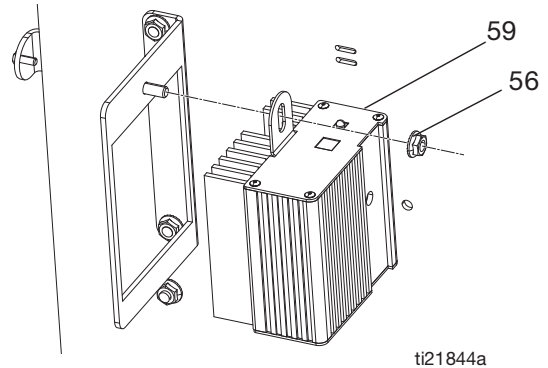

FIG. 13
3. Remove the heater shroud (90) and the electronics cover (55). See FIG. 13, page 46.
4. Loosen and remove the temperature control module bracket mounting fasteners (56). Move the control module up and out of the way to access the thermocouple.
- a. Remove the protective tape from the thermocouple tip (T).
- b. Apply PTFE tape and thread sealant to male threads and tighten the thermocouple housing (H) into the adapter (305).
- c. Push in the thermocouple (310) so the tip (T) contacts the heater element (307).
- d. Holding the thermocouple (T) against the heater element, tighten the ferrule nut (N) 1/4 turn past tight.
9. Route the wires (S) into the cart and thread into a bundle as before. Reconnect the wires to the board.
10. Replace the heater shroud (90) and the electronics cover (55). See FIG. 13, page 46.
11. Turn on the heaters ISO and RES simultaneously to test. Temperatures should rise at same rate. If one heater is low, loosen the ferrule nut (N) and tighten the thermocouple housing (H) to ensure the thermocouple tip (T) contacts the element (307).